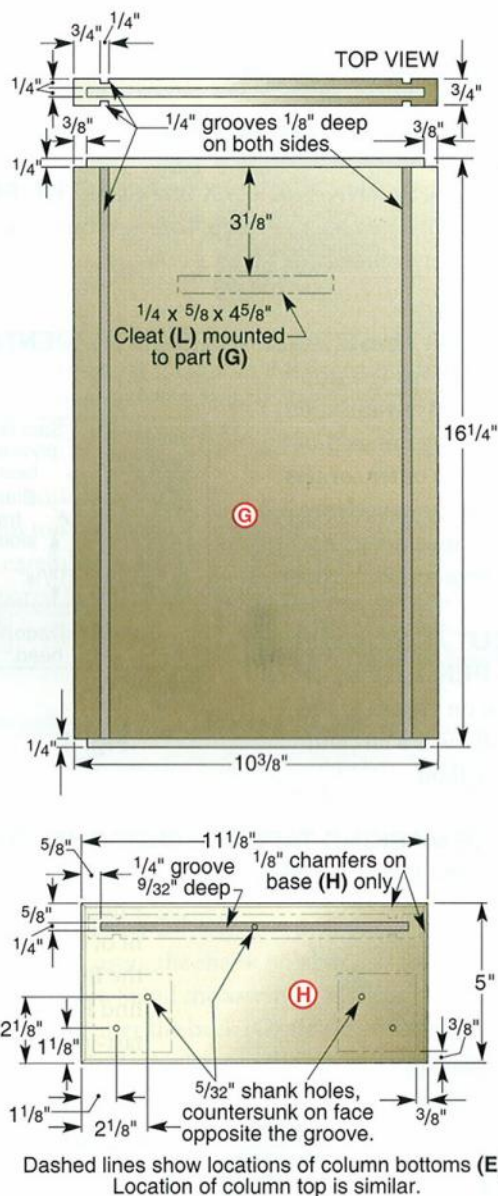

Fig. 3
edge-join two pieces to form part G, make sure the joint is centered for the best look.) Put a 1/4" dado set into your table saw, and adjust the height to cut 1/8" deep. Lock the rip fence 3/4" from the inside edge of the blade, and slice the grooves where shown on **Figure 3**.
1 THICKNESS-PLANE STOCK TO 1/2" THICK for the base/top (H). Rip and crosscut these identical parts to size, referring to the Cut List and **Figure 3**.
through the base/top (H) where shown on **Figure 3**, including
7 FASTEN THE OTHER CLEAT (L) TO THE BACK (G) at the location shown in **Figure 3**. In this case, the bevel slopes toward the back. Carefully square and center the cleat, fastening it with glue and a pair of $\frac{5}{8}$ " brads.